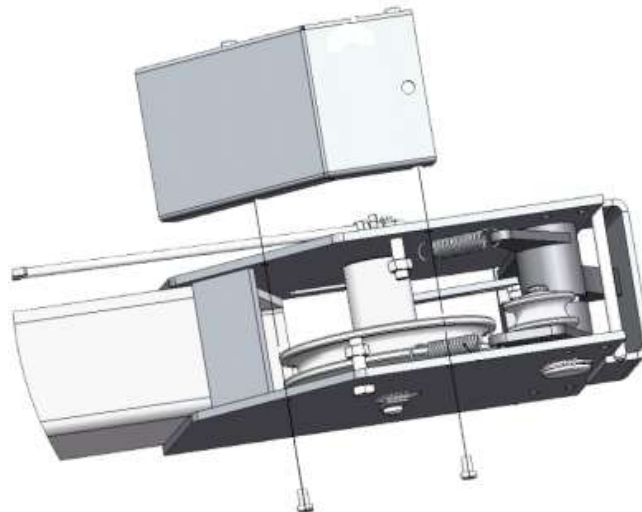

Figure 26
Step 11 - Install spring and beam safety cover of Crossbeam (See Fig.26).